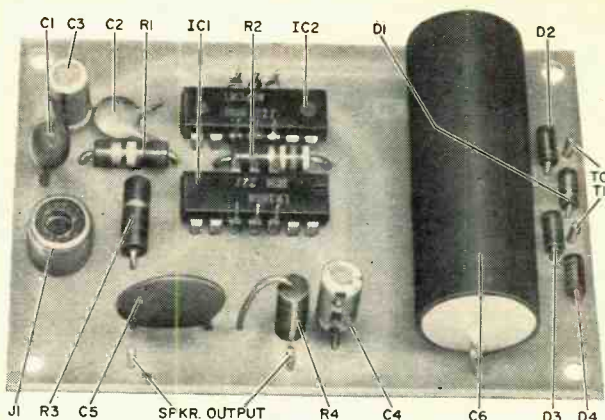

Fig. 3. PC foil pattern and photo of parts layout.
**Construction.** The complete amplifier, minus power transformer T1, can be assembled on a printed circuit board, the etching and drilling guide and component placement for which are shown in Fig. 3. Note the large ground areas used for shielding and heat sinking. If the amplifier is to be used with a 12-volt dc power supply, additional heat sinking is not required, and pins 3, 4, 5, 10, 11, and 12 of both IC's should be soldered to the PC board.